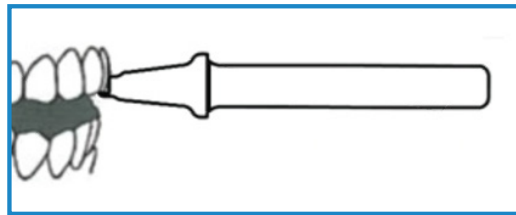

Figure 40a: **Correct** inclination of the Handpiece and Tip tab
1. Position the handpiece with the attached tip horizontally to the center of the facial surface of the tooth or restored implant (*Figure 40a*). The handpiece LED light will illuminate green when the correct position is achieved, indicating that the handpiece is ready to use.